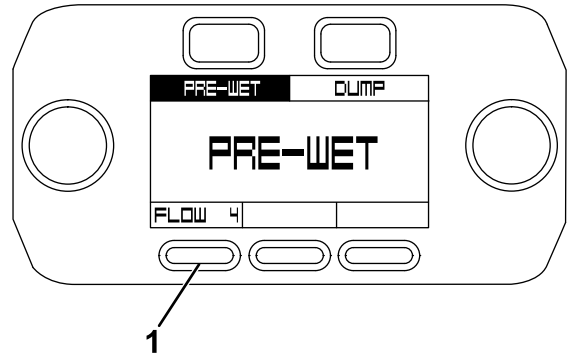

Figure 48
- On the pre-wet screen, press the Flow button to cycle between the flow speeds (Figure 48). There are 4 speeds: Flow 1 is the lowest and Flow 4 is the highest.